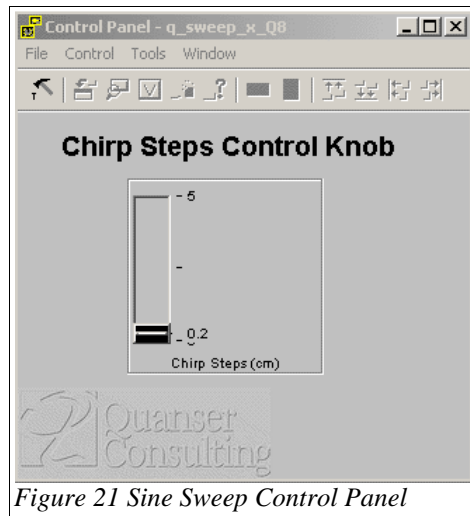

Figure 21 Sine Sweep Control Panel
Step 4. Open the project file 'q_sweep_x_zz.wcp'. As shown in Figure 21, the control panel has a knob that allows the user to change how much the amplitude increments during the sweep.